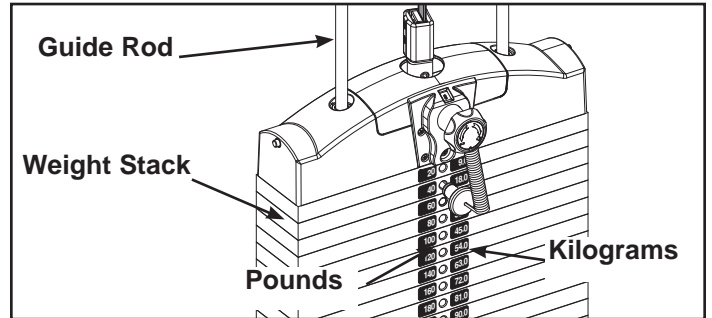

Figure 7
- D. Carefully remove front side, leaving decals adhering to weight plates. See Figure 7.